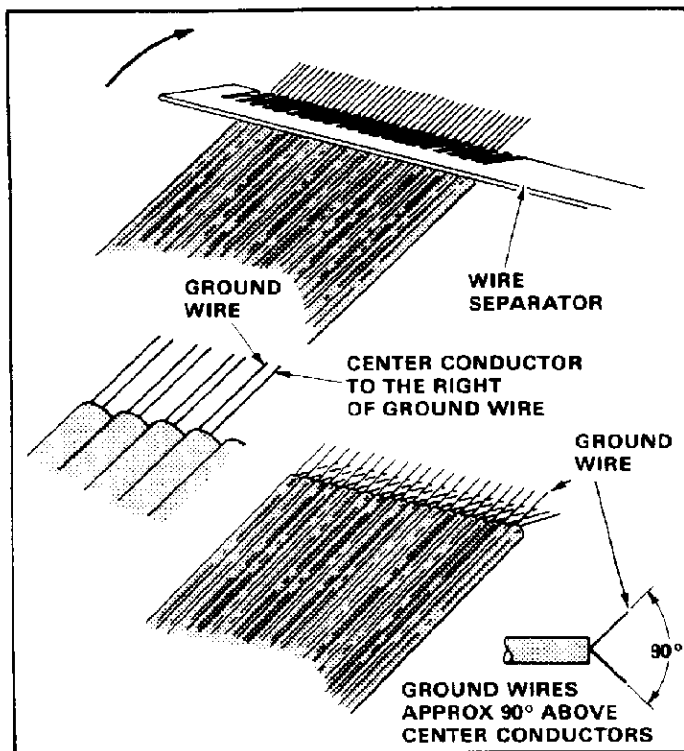

Fig. 4
4. Refer to Figure 4, and position ribbon cable so that center conductor is to RIGHT of ground wire.